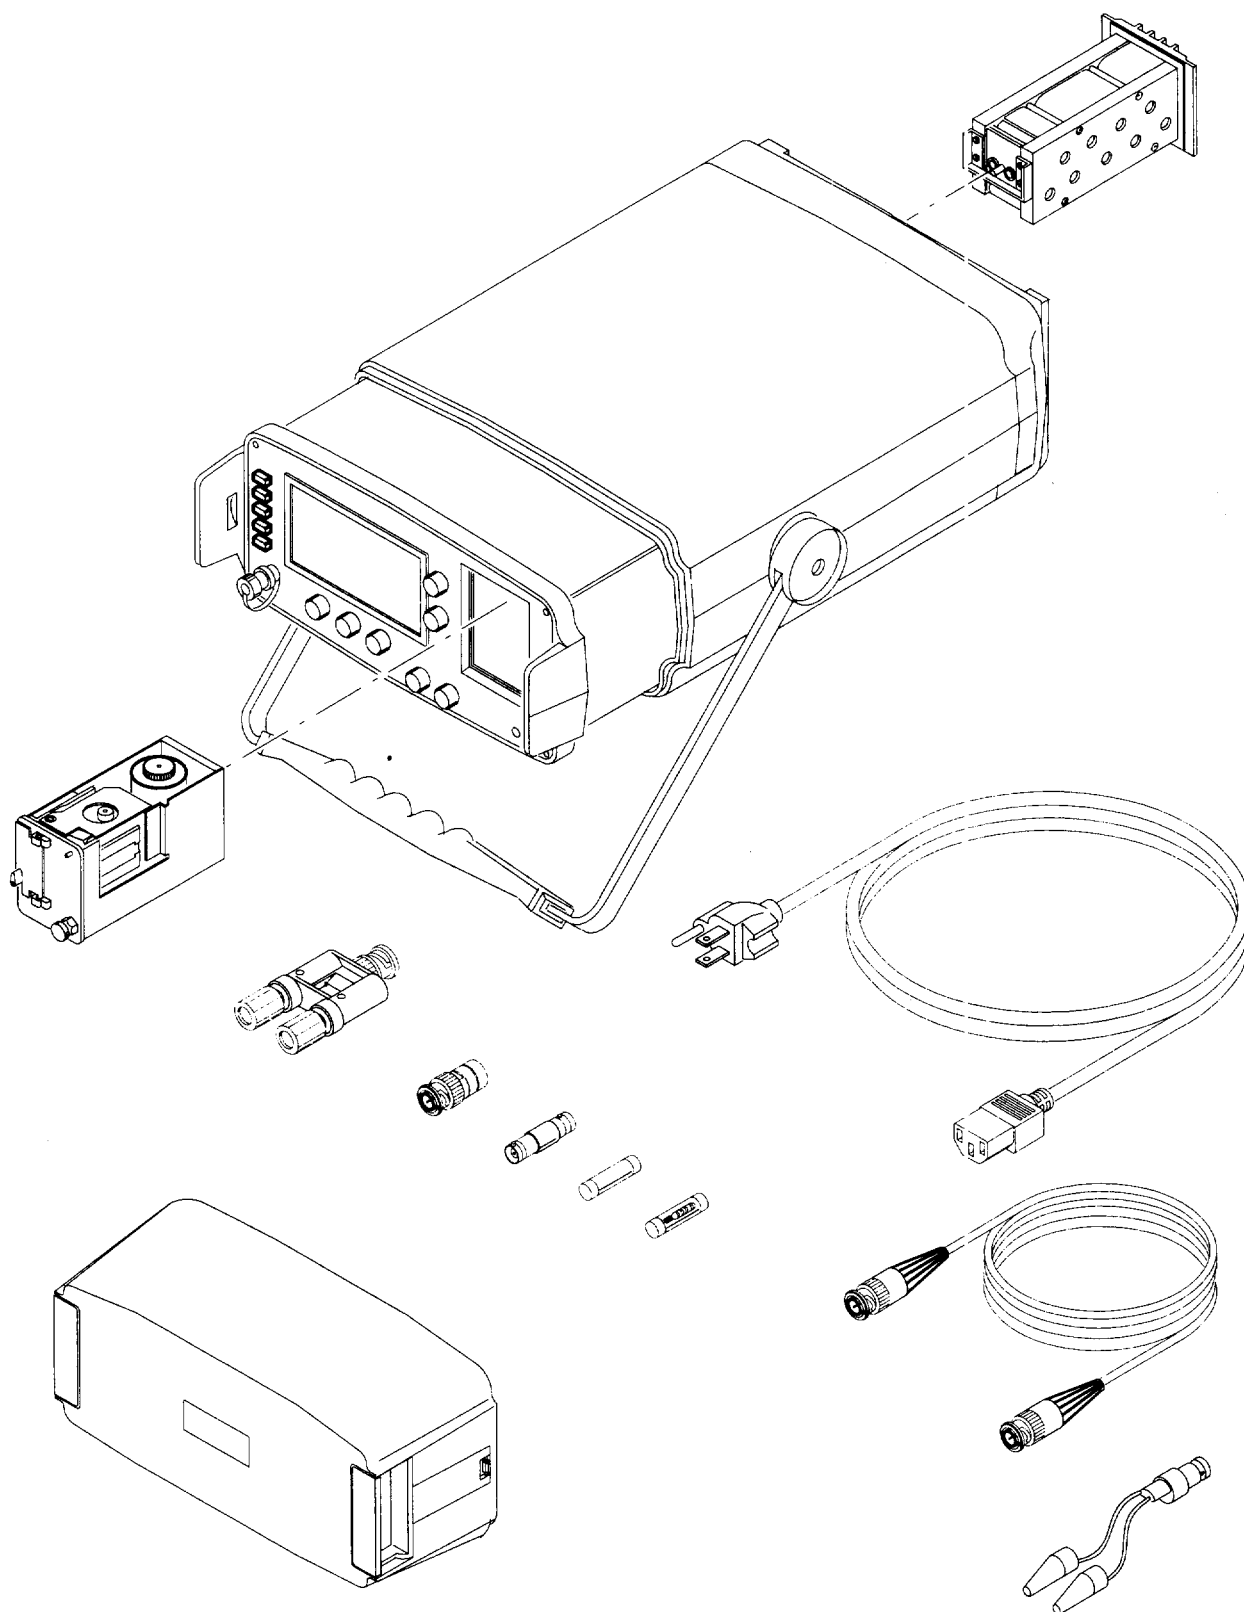

Figure 1-1. Test Set, Electrical Cable TS-4165/G
- c. **Purpose of Equipment:** The Test Set (fig. 1-1) is a short-range metallic cable tester capable of finding faults in metal cable. Tests can be made on coaxial, twisted pair, or parallel cable.